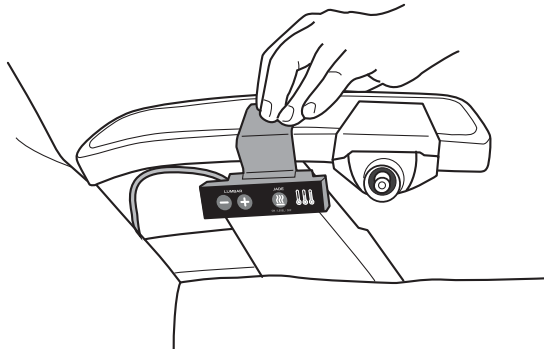

Fig.9
5. Place the control panel into position on the armrest, above the chair arm as shown (Fig.9).